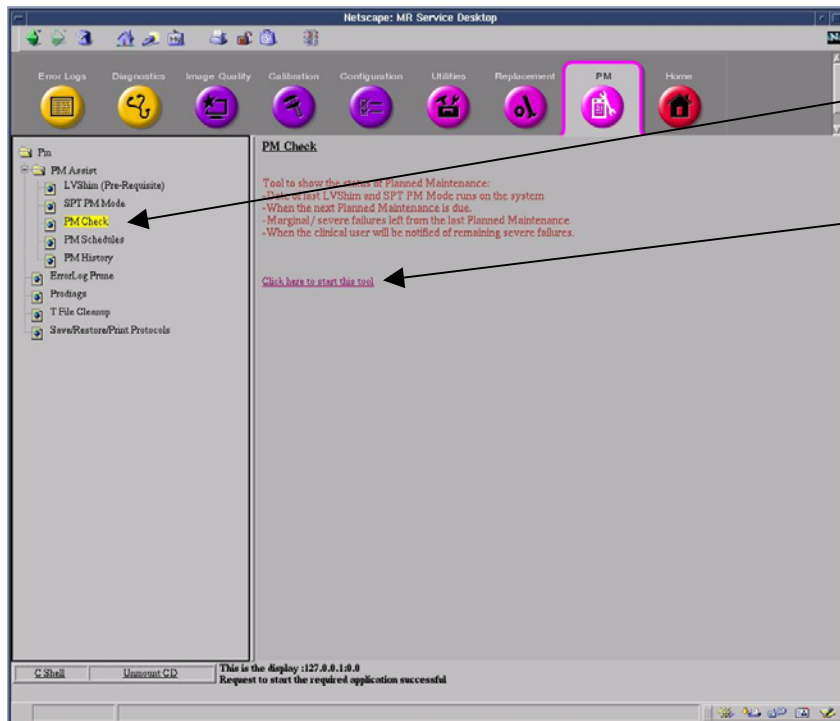

Figure 30a
1. To verify that the PM was completed successfully, click on "PM Check" in the left column. See Figures 30a and 30b.